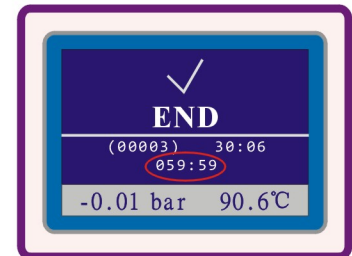

Fig.6.4-14
Until LCD appear Fig.6.4-14 interface,at this time you hear “Ka” ,it means electromagnetic lock has been release. You can open the door and take out the instruments. “END” is means the sterilization cycle is over.
(14)**Sterilization Evaluation:** the sterilization cycles is over,the control system will do Sterilization evaluation. Evaluation concluded that two kinds:1、 “✓” is qualification;2、 “X” is failure.(Fig.6.4-14)
(15) **Save Electricity Function:** when this interface (Fig. 6.4-14) stationary on the LCD, it appear 59:59 countdown, after one hour, if no one to open the door and remove this interface. the control system judged as operator have left. To reduce the risk and save electricity, it will stop to the heating coil and the steam generator power. Until you get back to open the sterilizer door can only be to the heating coil and the steam generator to restore power.